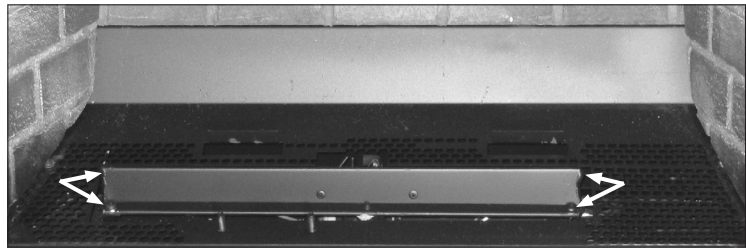

Figure 25: Unfastening Burner.
4. Using a T-20 screwdriver, remove the four (4) screws that hold the burner in place (pointed out in Figure 25). Slide the burner to the left (see Figure 26), then up and out of the firebox.